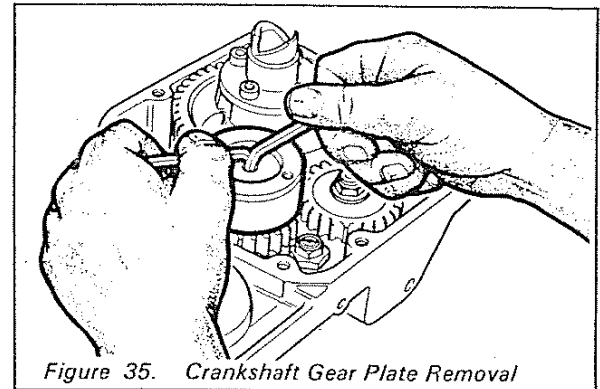

Figure 35. Crankshaft Gear Plate Removal
The plate (B) can be lifted out by using two suitable Allen keys placed into the bolt hole as shown in Figure 35.